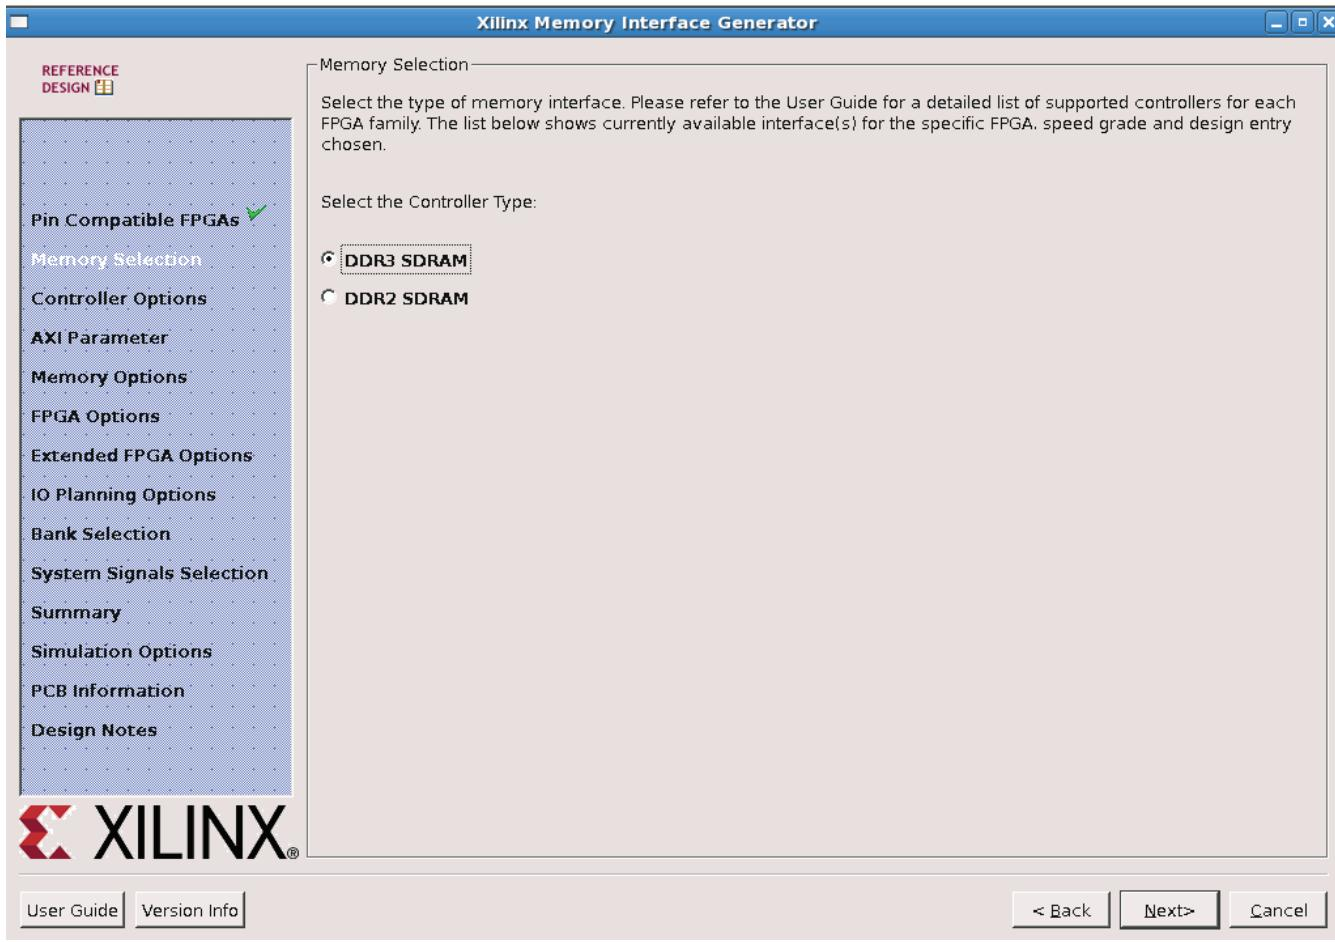

Figure 32: MIG Memory Type and Controller Selection
19. For Memory Selection, select **DDR3 SDRAM** and click **Next** (Figure 32).